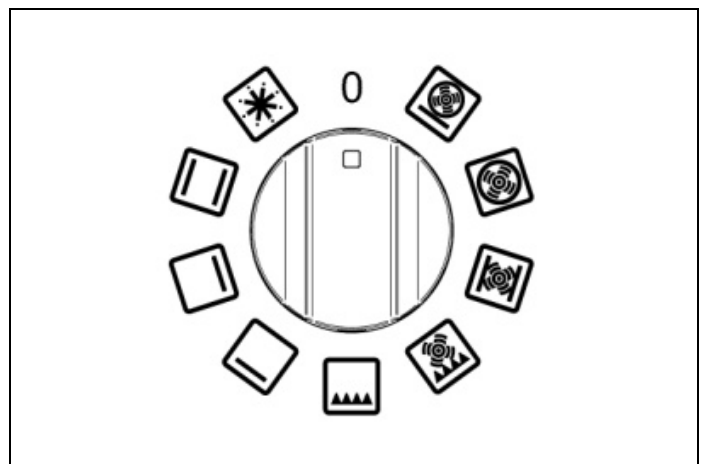
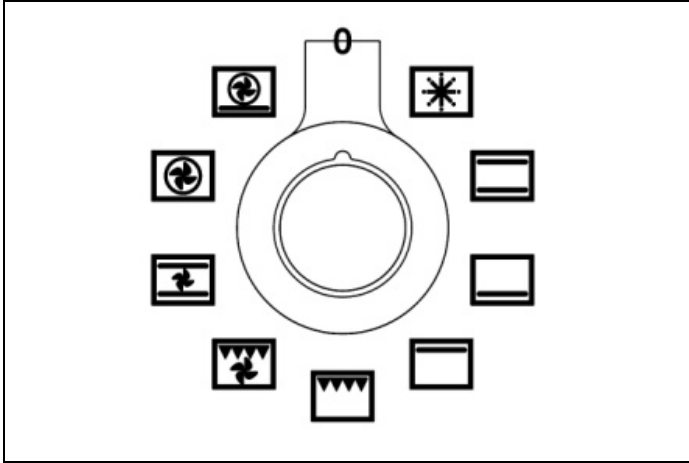
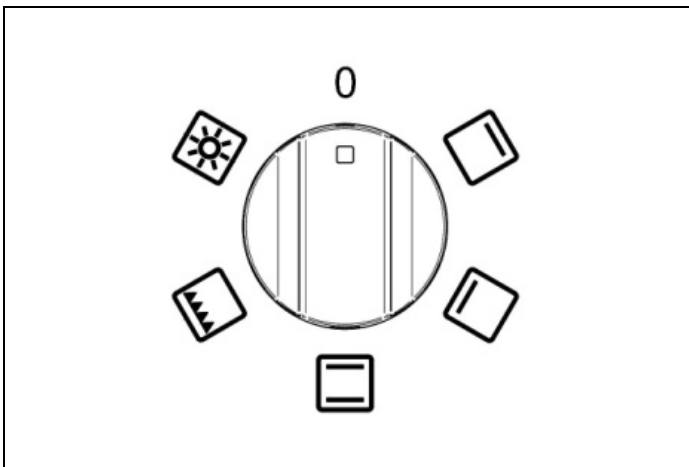
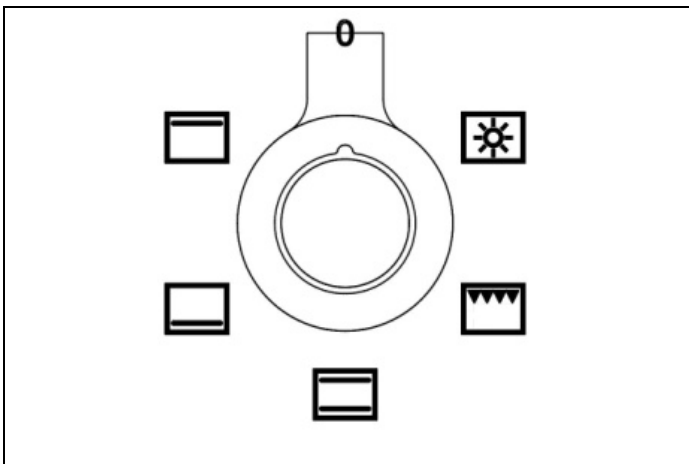

Fig. 21
Fig. 22
Fig. 23
Fig. 24
- 1) Turn the functions knob (Fig. 21 - Fig. 22 and Fig. 23 - Fig. 24) clockwise to select the function required.